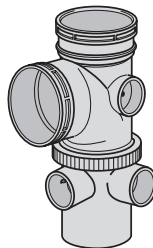

Fig.31d Install into buried drain seal
**Step 4a** – (Ground floor – spigot version) Push into buried drain lip seal (Fig.31d)